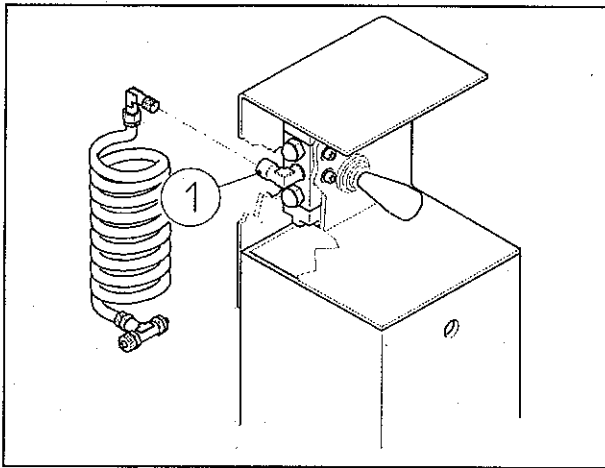

Fig.7
- A. Connect the air pipe on issue with the fitting on the device (#1 Fig.7)